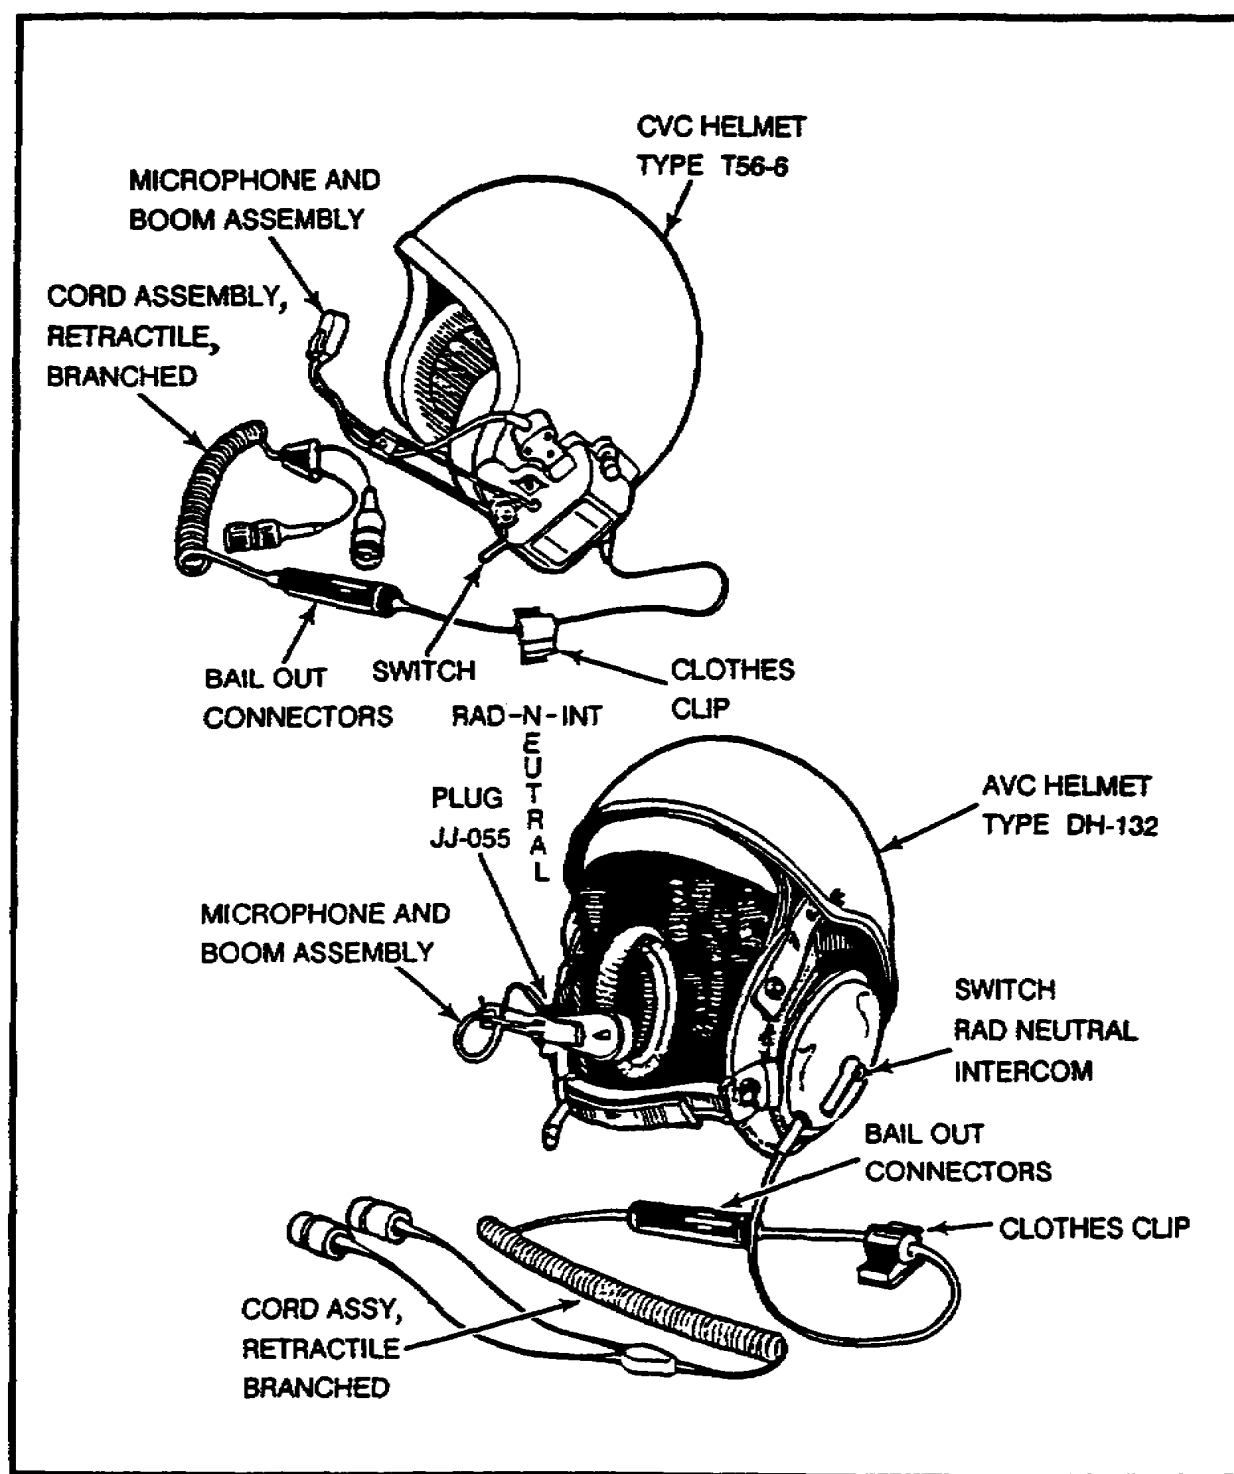

Figure 7. CVC helmet (T56-6) and AVC helmet (DH-132).
k. See Figure 7. Audio accessories normally used by combat vehicle and armored vehicle crew members are the CVC helmet, type T56-6, and the AVC helmet, type DH-132.